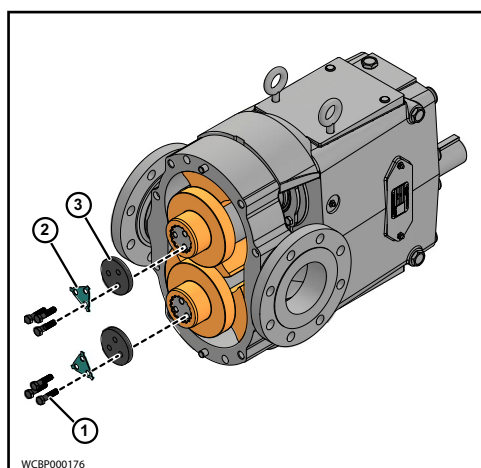

Figure 34 - Remove rotor retainer bolts
4. To remove rotor retainer bolts (1), straighten the lock clip tabs (2) by using a screw driver or drift. Then, when clear, use a conventional wrench and a sharp counterclockwise impact to loosen rotor retainer bolt (1). Remove the rotor retainer washer (3), as shown in Figure 34.
5. Remove the cover bushing (4).